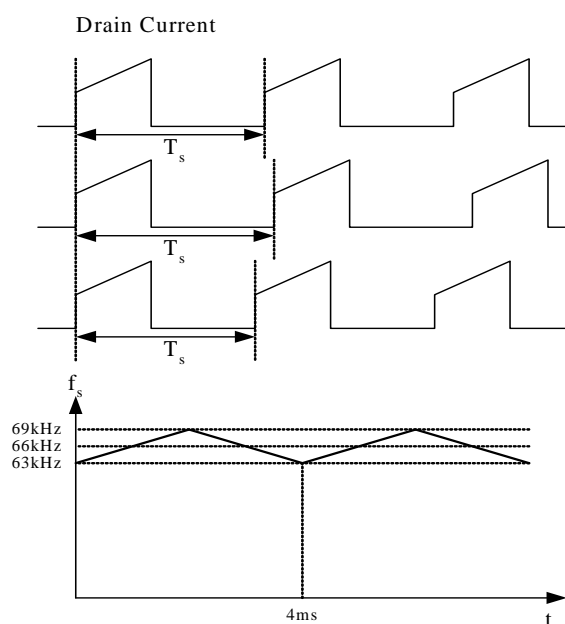

Figure 21. Frequency Modulation
4. Frequency Modulation: EMI reduction can be accomplished by modulating the switching frequency of a switched power supply. Frequency modulation can reduce EMI by spreading the energy over a wider frequency range than the band width measured by the EMI test equipment. The amount of EMI reduction is directly related to the depth of the reference frequency. As can be seen in Figure 21, the frequency changes from 63KHz to 69KHz in 4ms.